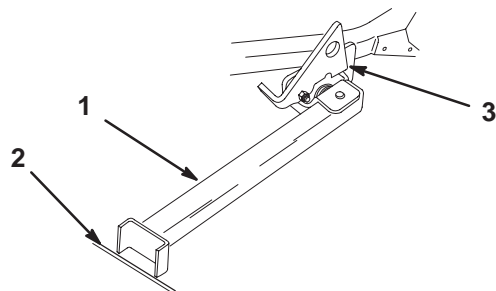

Figure 31
4. Set the foot of stand on the ground and rest the latch on the pivot tab (Fig. 31).
Note: For best results, place the foot of stand into seams in sidewalks or into the turf (Fig. 31).
6. Drive onto the stand. Stop when the latch drops over the tab into the locked position (Fig. 31). Once onto the stand, engage the parking brake and turn off the engine.